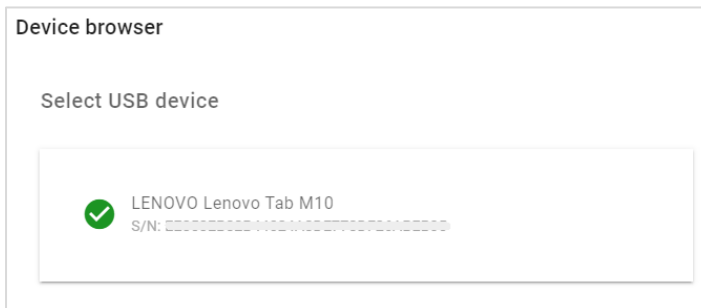

Figure 41
- Select the USB device (Figure 41). The successful connection is indicated by a green check mark.